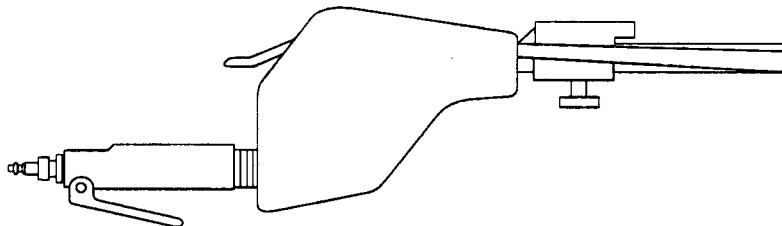

Figure 13 - Strap Sander
5.3.12 Strap Sander (see Figure 13)